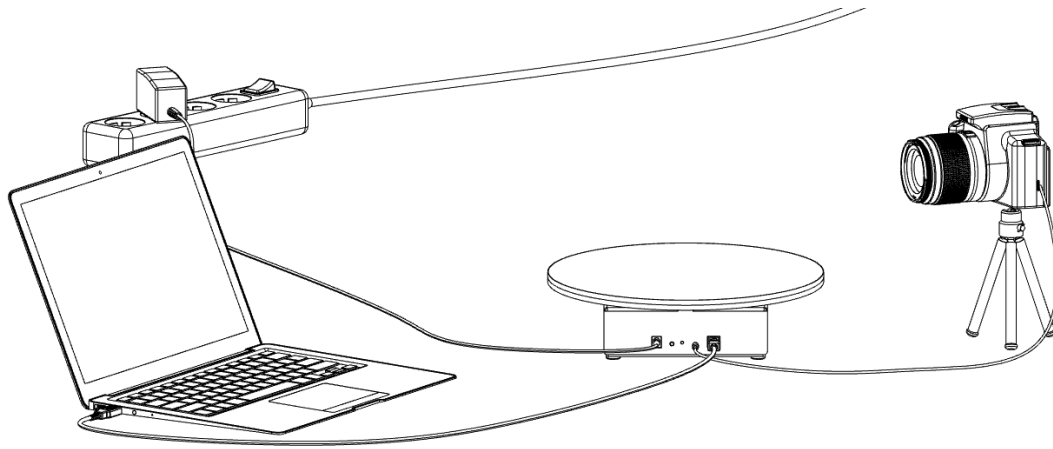
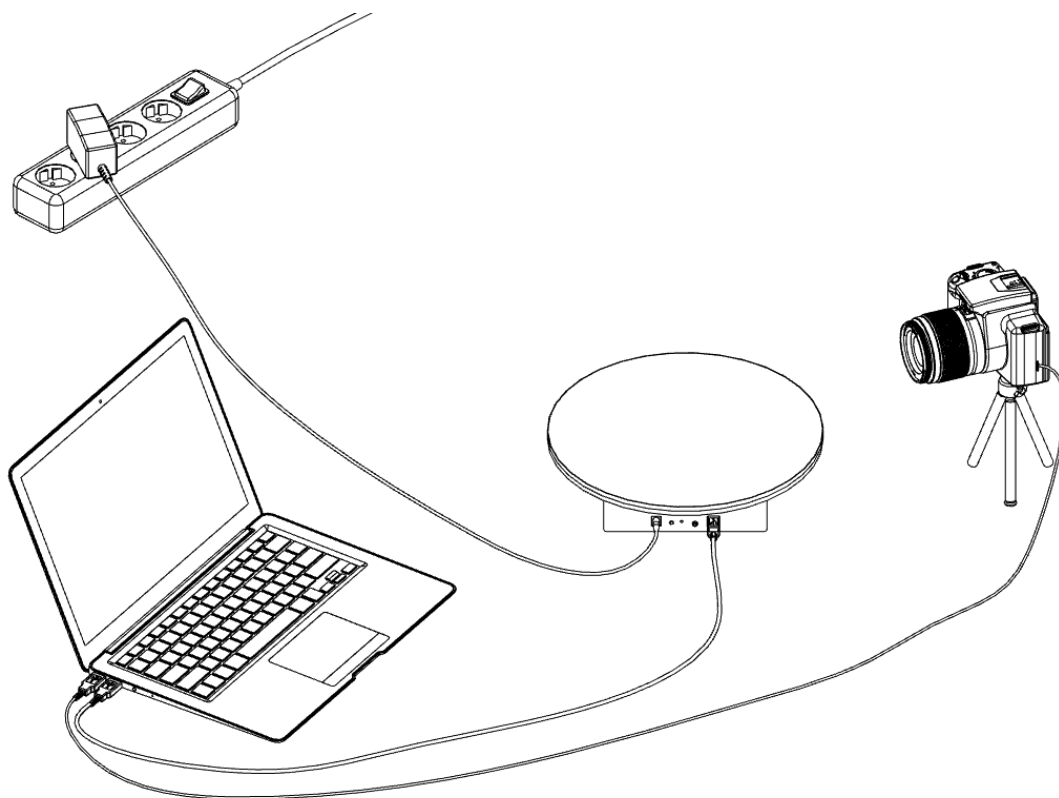

Figure 2. Camera connected via release shutter cable
Figure 3. Camera connected via USB cable
The camera can be connected using the port on the platform (via the remote cable shutter release) or directly to a PC with a cable USB A - mini USB. The two options of connecting devices are shown in Figure 2 and 3.
2. Connect the camera via the remote shutter cable (Fig. 2) or via USB (Fig. 3).